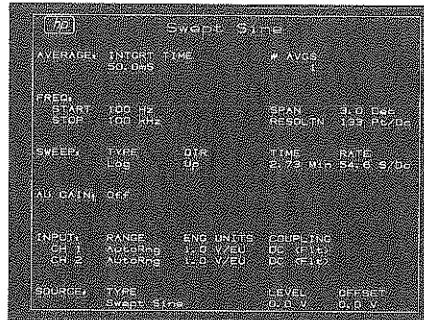

Figure 4-1
**2. Preset** Press the green **PRESET** key. The Swept Sine setup state can be displayed, as shown in Figure 4-1, by pressing the **STATE/TRACE** key. All values shown are the default preset measurement conditions.